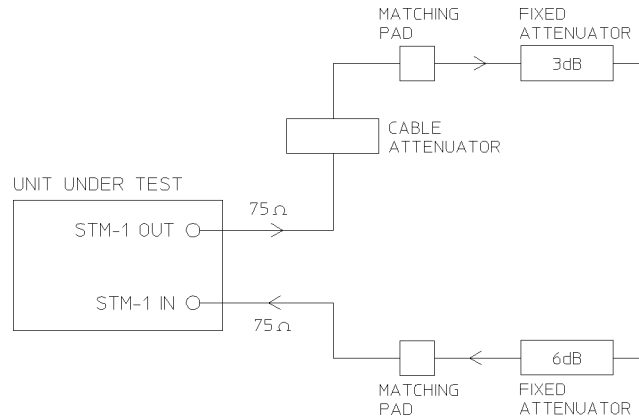

Figure 3-43
3. Connect up the equipment as shown in Figure 3-43.